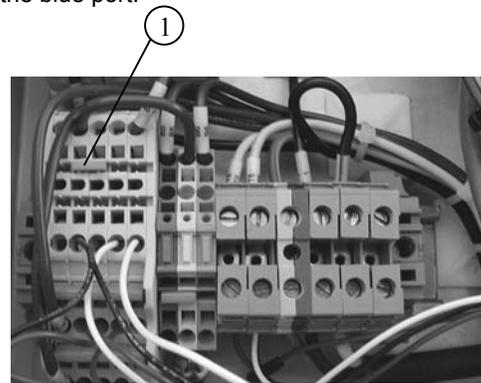

Figure 18
Jumper in the "Left" or blue port position (Figure 18, item 1). The user selectable port will function the same as the blue port.